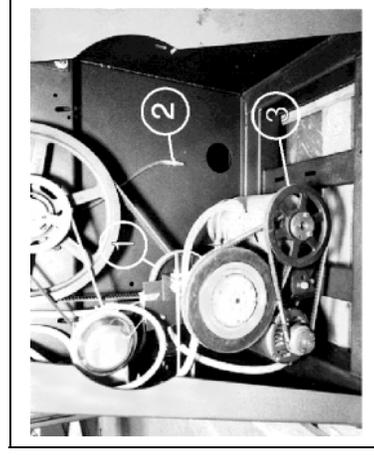

FIGURE 7 (MSSM0242AE)
1. Remove the drain plug (FIGURE 7, Item 2) on the bottom of the main bearing housing and allow the bearing housing to drain completely. Inspect the leak-off, drained oil, and magnetic drain plug for water and/or metal particles. Install the drain plug. Water and/or metal particles can indicate worn or damaged seals and bearings.